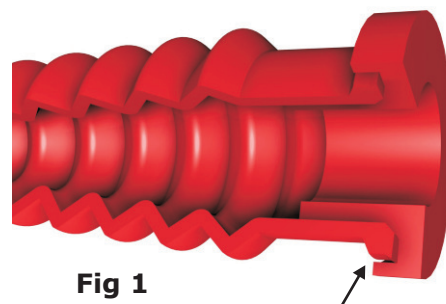
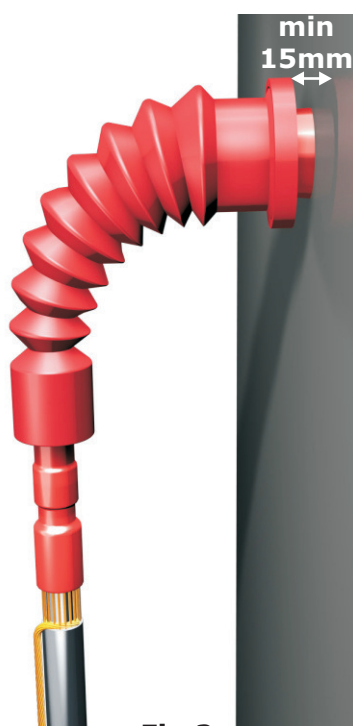
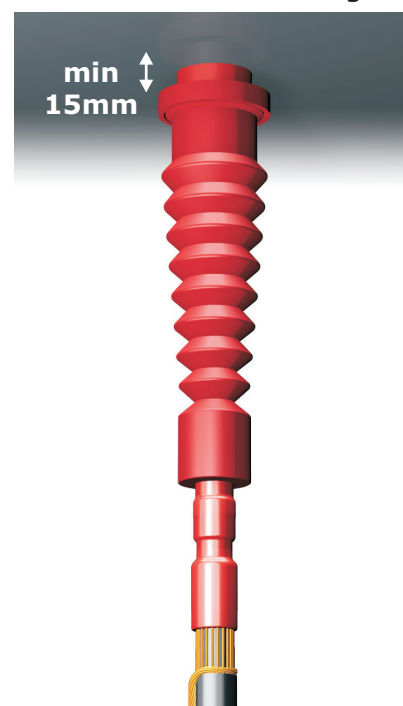

Fig 1
Fig 2
Fig 3
3. Offer up the Boot into either the Right Angle (See Fig 2) or Straight (See Fig 3) position. Make sure that the Raised Ridge on the Boot is positioned at the back of the Collar as shown in Fig 1.